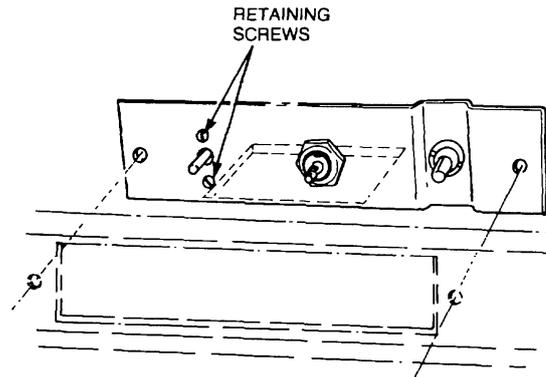

Figure 199 Blackout Lighting Switch Removal
- g.** Remove the two round-head screws securing the switch to the bracket and remove the switch (Figure 199).